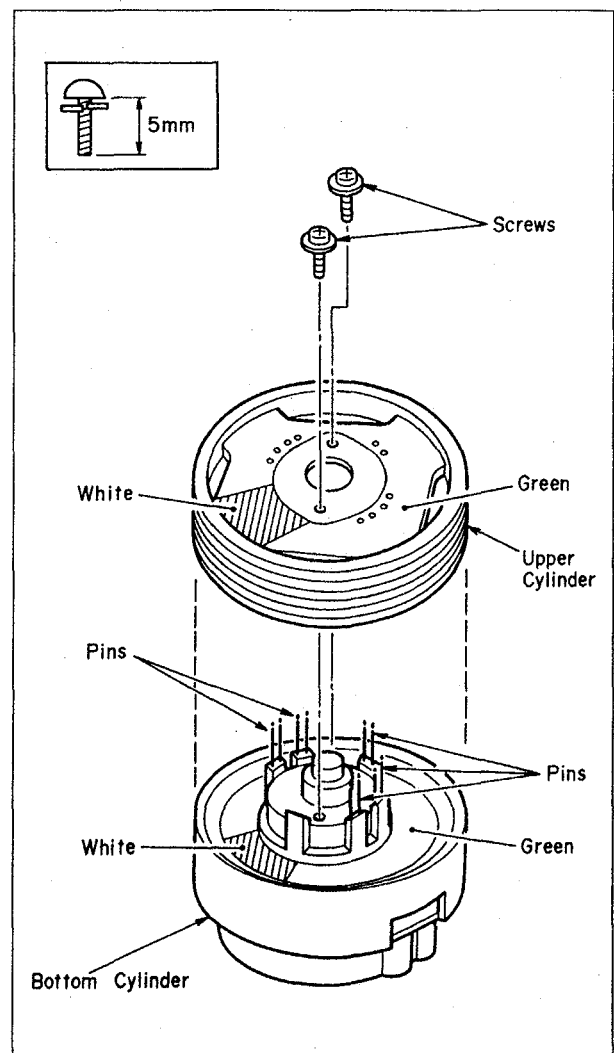

Fig. 18
- (1) REMOVING THE UPPER CYLINDER UNIT
- a. Remove the 2 screws as shown in Fig. 18.